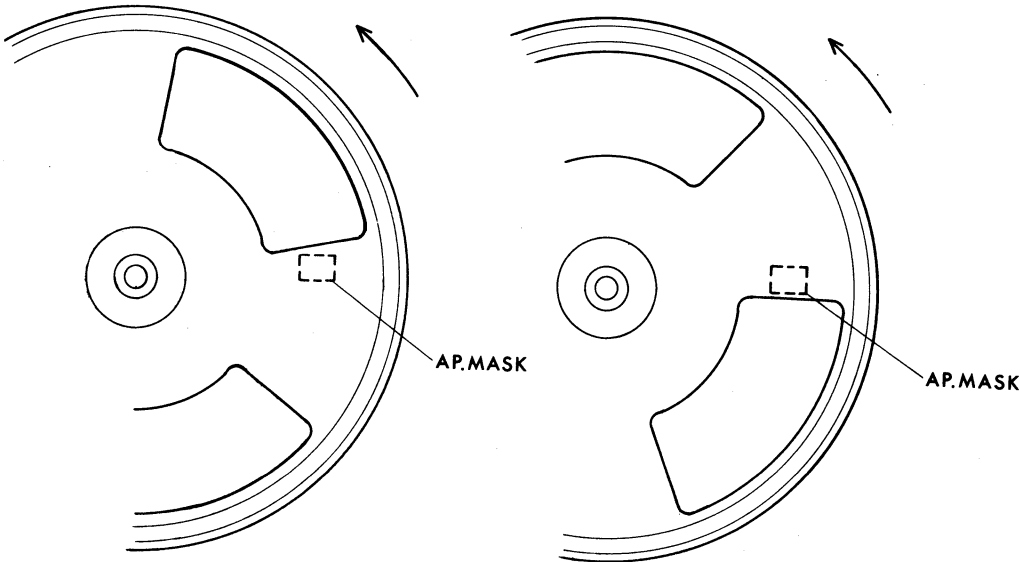

Fig 8
1. Attach the shutter to see that it covers the aperture mask whenever the claw transports film. Refer to Fig.8.